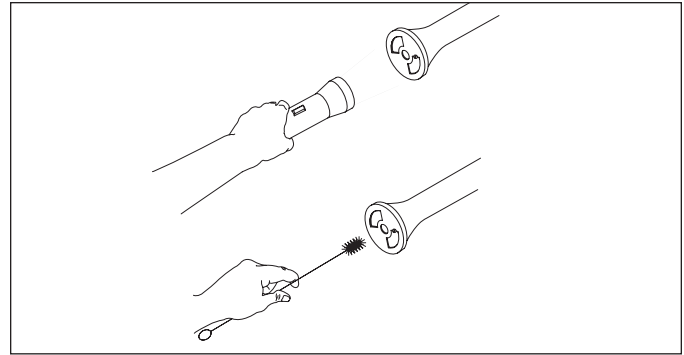

Fig. 2-9
1. Using a flashlight, look inside of the end of the burners for webs or mud nests. See Fig. 2-9
2. Use the special venturi brush provided and push the brush through the full length of each burner several times. See Fig. 2-9